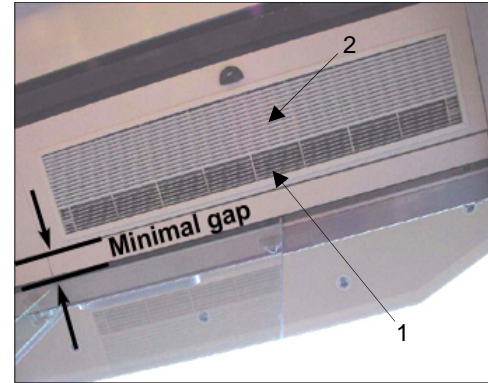

Fig 1
- the air discharge (see 1, Fig 1) section of the recessed grille nearest the doorway and the air inlet section (see 2, Fig 1) furthest from the doorway